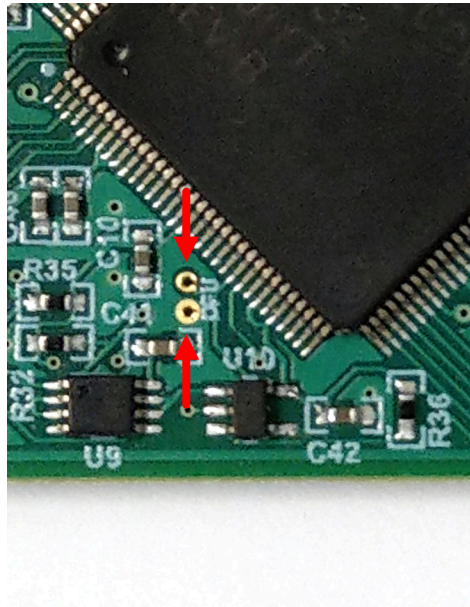

Figure 3-1. Test Points Used to Enter DFU Mode Manually
- While shorting the two test points labeled *DFU* (shown in Figure 3-1) with a pair of tweezers (or wire), press and release the *RESET* button.